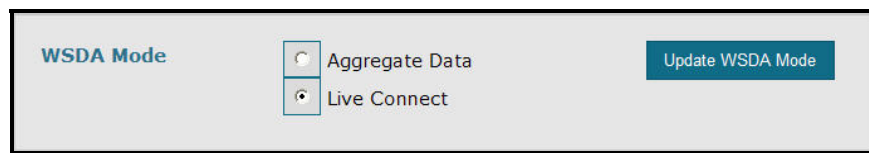

Figure 4. WSDA[®] Mode panel
- Click the Live Connect radio button in the WSDA[®] Mode panel as shown in Figure 4.